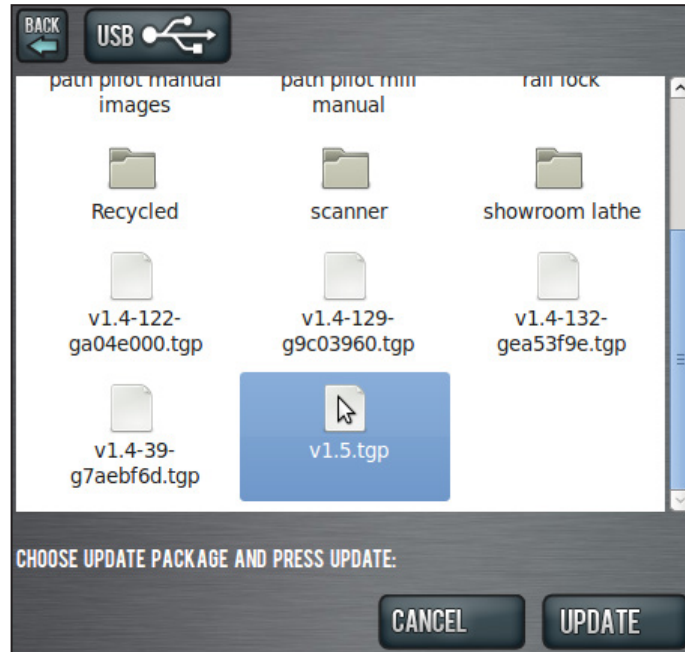

Figure 4
5. Navigate to the PathPilot update file (vX.X) on the USB drive; click *Update* (see **Figure 4**).